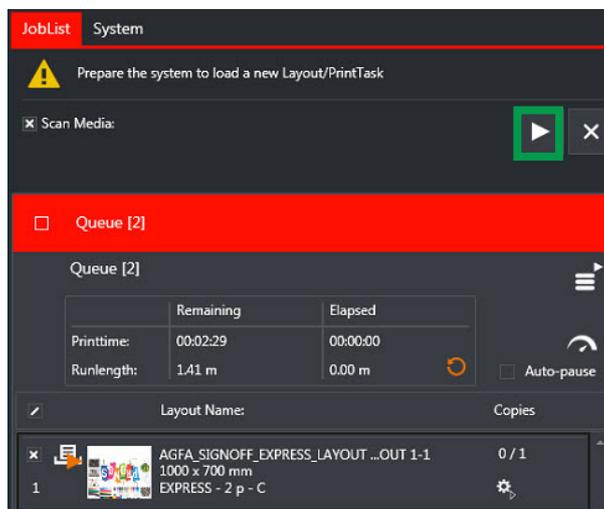

Fig.5-24: Start Print Button - Manual Continuous Mode
- Step 4: Click the start printing button (outlined in green in Fig.5-24) from the GUI or press the right foot pedal to start. In case of multiple copies, only use the pedal.